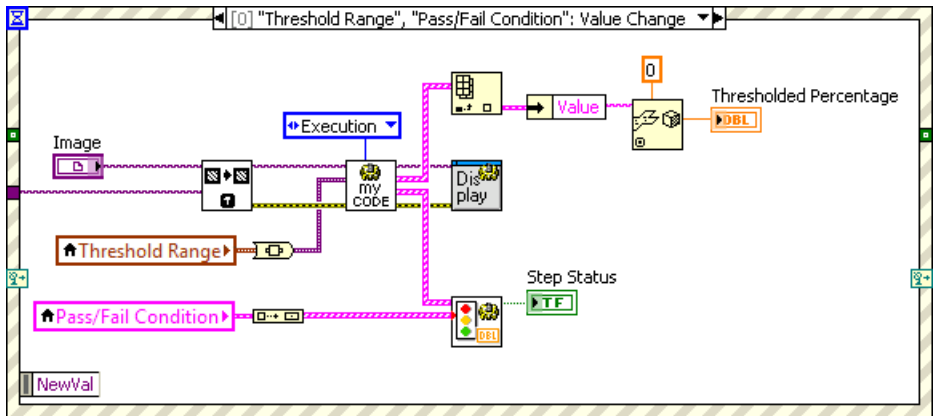

Figure 4-13. Updating the User Interface with Measurement Data
9. Complete the following steps to build the block diagram show in Figure 4-13:
- i. Connect the **value** output of the Unflatten From String function to the Threshold Percentage indicator. Figure 4-13 illustrates the complete block diagram.